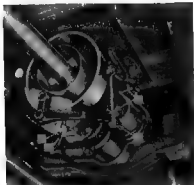

Fig. 53—Propeller Shaft Brake
2. Loosen lock nut "D" and draw up adjusting bolt "A" (fig. 53) to secure clearance between outer shoe facing and brake